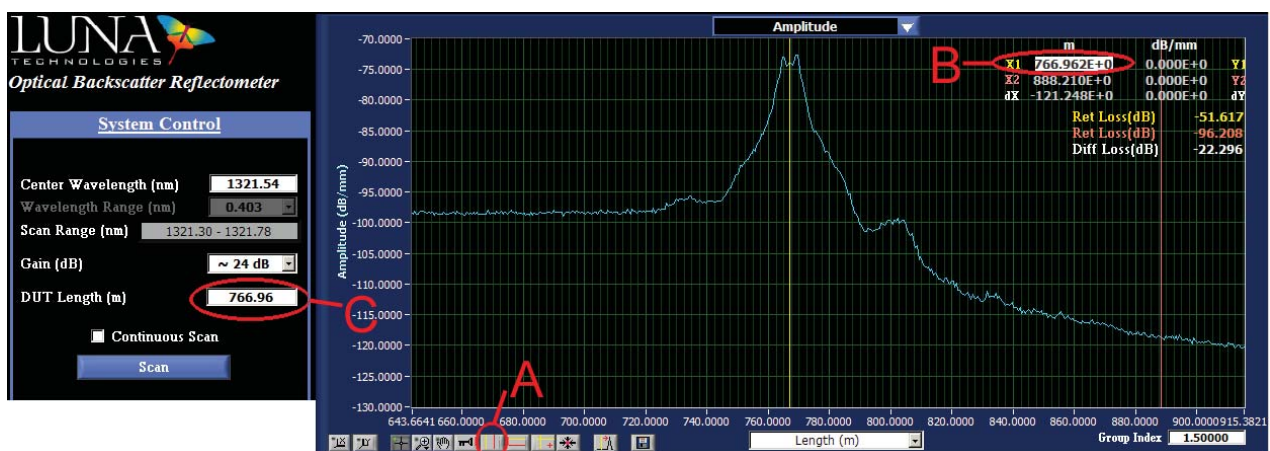

Figure 8: Top graph shown with activated vertical cursors. Vertical cursor toggle (A), vertical cursor positions (B), and DUT length (C)
- i. On the top graph, activate the vertical cursors (labeled 'A', Figure 8). Using one of the cursors, horizontally shift it to point that is approximately at the center of the end reflection peak reflection as seen below. A value of the location will then be displayed on the upper-right hand corner of the top graph. Copy the appropriate, color-coded value (labeled 'B', Figure 8) and paste it to the "DUT Length" field on the "System Control" menu (labeled 'C', Figure 8).